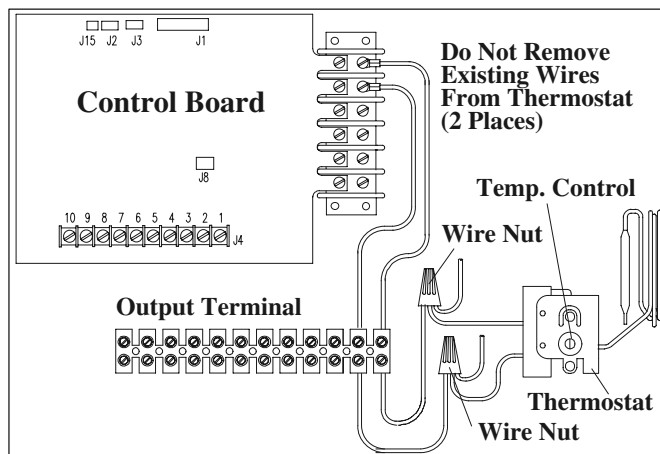

Figure 1: Gas heater interface (option 1)
3. Turn the thermostat of the gas heater down all the way and wire two heater wires from the control system in parallel with the gas heater thermostat wires by using an appropriately sized wire nut. See Figures 1 and 2 below. (See Application Note 3A or 3B if re-wiring an electric heater compatible system.)